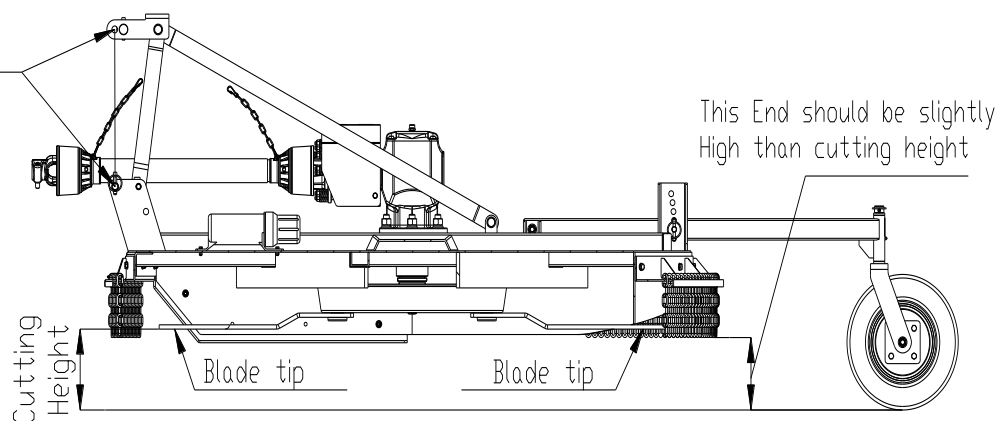

Figure 14: Cutting Height
3. With gloves on, carefully rotate each blade tip to the position shown in figure 14.